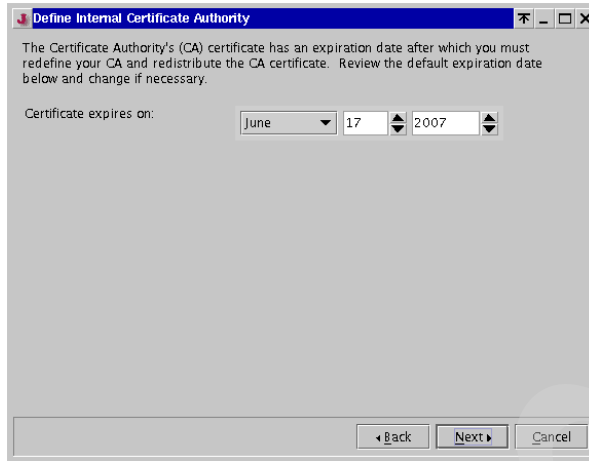

Figure 7-6 Certificate expiration date
5. The wizard displays the expiration date of the certificate that you are going to create, as shown in Figure 7-6 on page 131. Verify the date (the default expiration period is set to four years), then click **Next**.